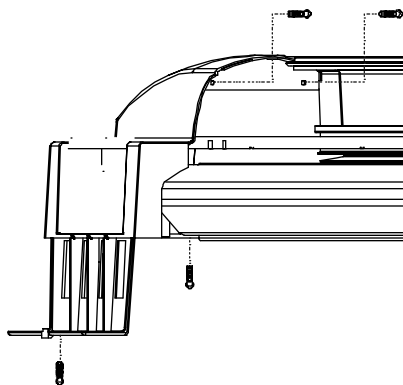

Figure 5-2. Left Cover Assembly Removal/Installation.
11. With a #2 Phillips screwdriver, remove the two screws securing the Left Cover Assembly to the Left Baseplate and the two screws securing it to the Left Sideplate. See Figure 5-2.